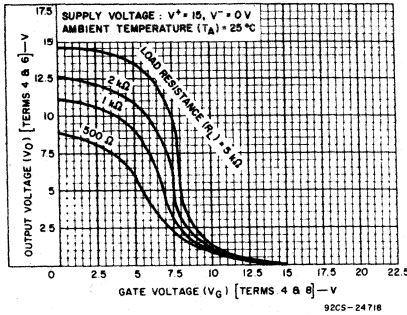
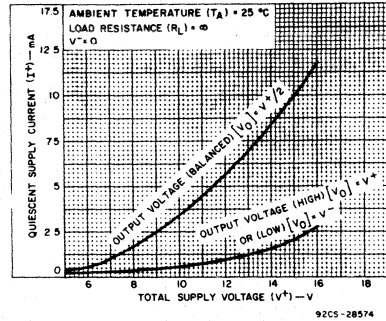
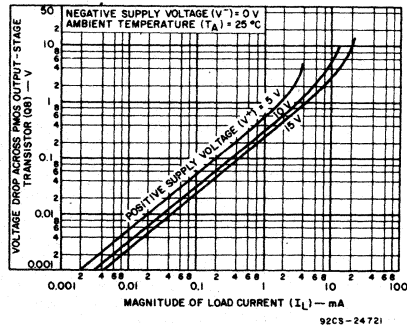
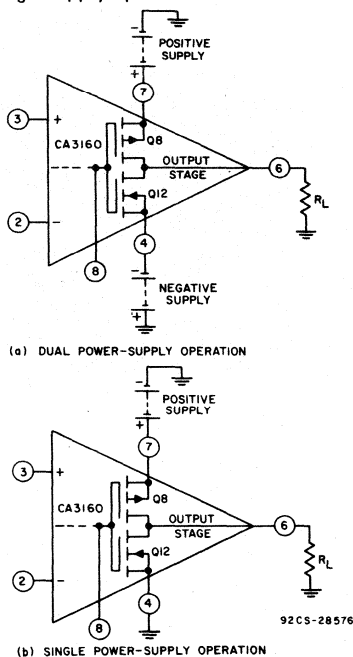

Fig. 6 - Voltage transfer characteristics of COS/MOS output stage.
Fig. 7 - Quiescent supply current vs. supply voltage.
Fig. 9 - Voltage across PMOS output transistor (Q8) vs. load current.
Fig. 15 — CA3160 output stage in dual and single power-supply operation.
**Output Stage** — The output stage consists of a drain-loaded inverting amplifier using COS/MOS transistors operating in the Class A mode. When operating into very high resistance loads, the output can be swung within millivolts of either supply rail. Because the output stage is a drain-loaded amplifier, its gain is dependent upon the load impedance. The transfer characteristics of the output stage for a load returned to the negative supply rail are shown in Fig.6. Typical op-amp loads are readily driven by the output stage. Because large-signal excursions are non-linear, requiring feedback for good waveform reproduction, transient delays may be encountered. As a voltage follower, the amplifier can achieve 0.01 per cent accuracy levels, including the negative supply rail.
Because the CA3160 is very useful in single-supply applications, it is pertinent to review some considerations relating to power-supply current consumption under both single- and dual-supply service. Figs. 15(a) and 15(b) show the CA3160 connected for both dual- and single-supply operation.
**Single-supply operation:** Initially, let it be assumed that the value of  $R_L$  is very high (or disconnected), and that the input-terminal bias (Terminals 2 and 3) is such that the output terminal (No. 6) voltage is at  $V^+/2$ , i.e., the voltage-drops across Q8 and Q12 are of equal magnitude. Fig. 7 shows typical quiescent supply-current vs. supply-voltage for the CA3160 operated under these conditions.
Since the output stage is operating as a Class A amplifier, the supply-current will remain constant under dynamic operating conditions as long as the transistors are operated in the linear portion of their voltage-transfer characteristics (see Fig. 6). If either Q8 or Q12 are swung out of their linear regions toward cut-off (a non-linear region), there will be a corresponding reduction in supply-current. In the extreme case, e.g., with Terminal 8 swung down to ground potential (or tied to ground), NMOS transistor Q12 is completely cut off and the supply-current to series-connected transistors Q8, Q12 goes essentially to zero. The two preceding stages in the CA3160, however, continue to draw modest supply-current (see the lower curve in Fig. 7) even though the output stage is strobed off. Fig. 15(a) shows a dual-supply arrangement for the output stage that can also be strobed off, assuming  $R_L = \infty$ , by pulling the potential of Terminal 8 down to that of Terminal 4.
Let it now be assumed that a load-resistance of nominal value (e.g., 2 kilohms) is connected between Terminal 6 and ground in the circuit of Fig. 15(b). Let it further be assumed again that the input-terminal bias (Terminals 2 and 3) is such that the output terminal (No. 6) voltage is a  $V^+/2$ . Since PMOS transistor Q8 must now supply quiescent current to both  $R_L$  and transistor Q12, it should be apparent that under these conditions the supply-current must increase as an inverse function of the  $R_L$  magnitude. Fig. 9 shows the voltage-drop across PMOS transistor Q8 as a function of load current at several supply voltages. Fig. 6 shows the voltage-transfer characteristics of the output stage for several values of load resistance.